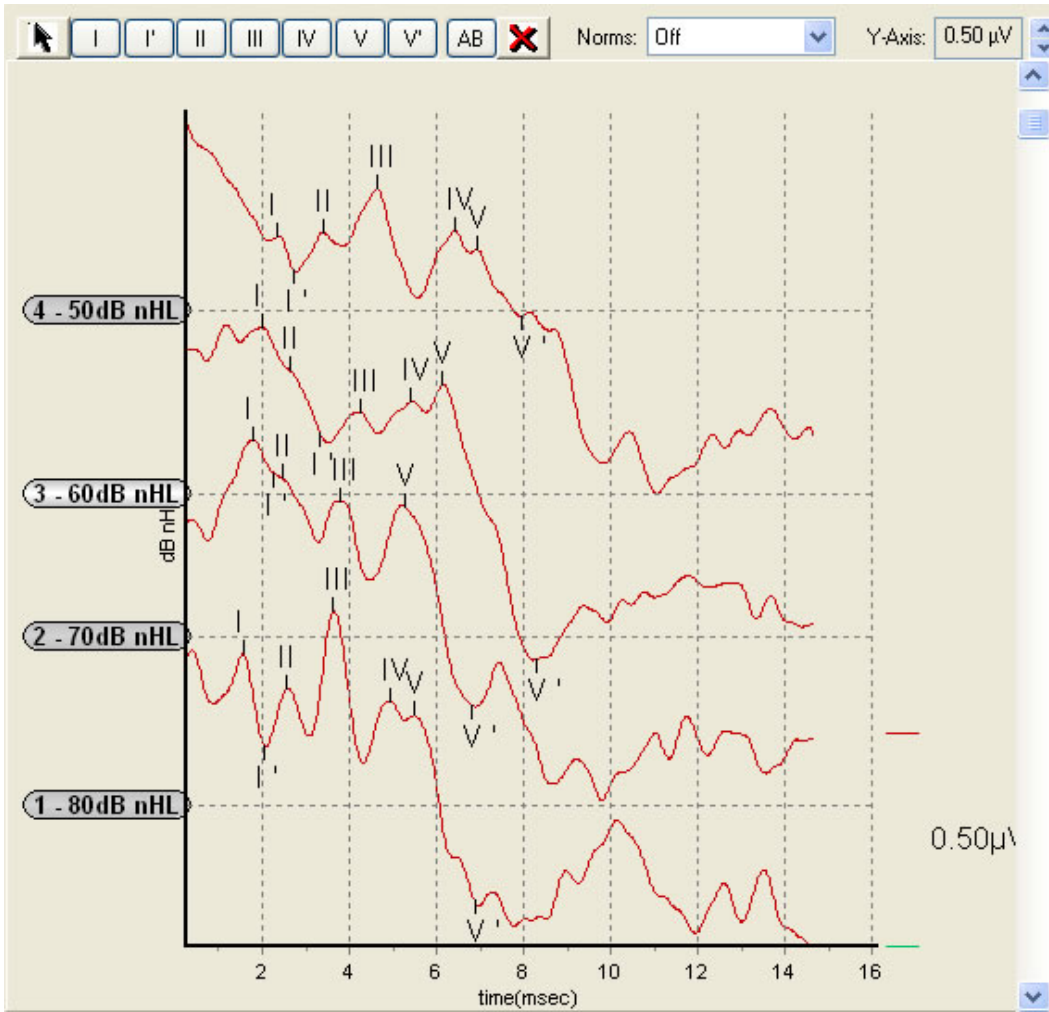

Figure 30 Waveform Window – collected data for analysis
Before the graph can be populated the waves must first be labeled with the I, III, and V wave labels in the Waveform Window. (See Figure 30 for details.)
This window displays the graphic representation of the collected waveform as a function of the amplitude (μV) of the signal over time (ms) (Figure 30).
2. Select a label from the labeling buttons at the top of the **Waveform Window** (Figure 30).
Use the **Y-Axis Scale** field located at the right upper corner of the **Waveform Window** (Figure 30) to change the Y-axis scale of the amplitude. The scale can be set to any value between 0.05 μ V to 4.0 μ V.